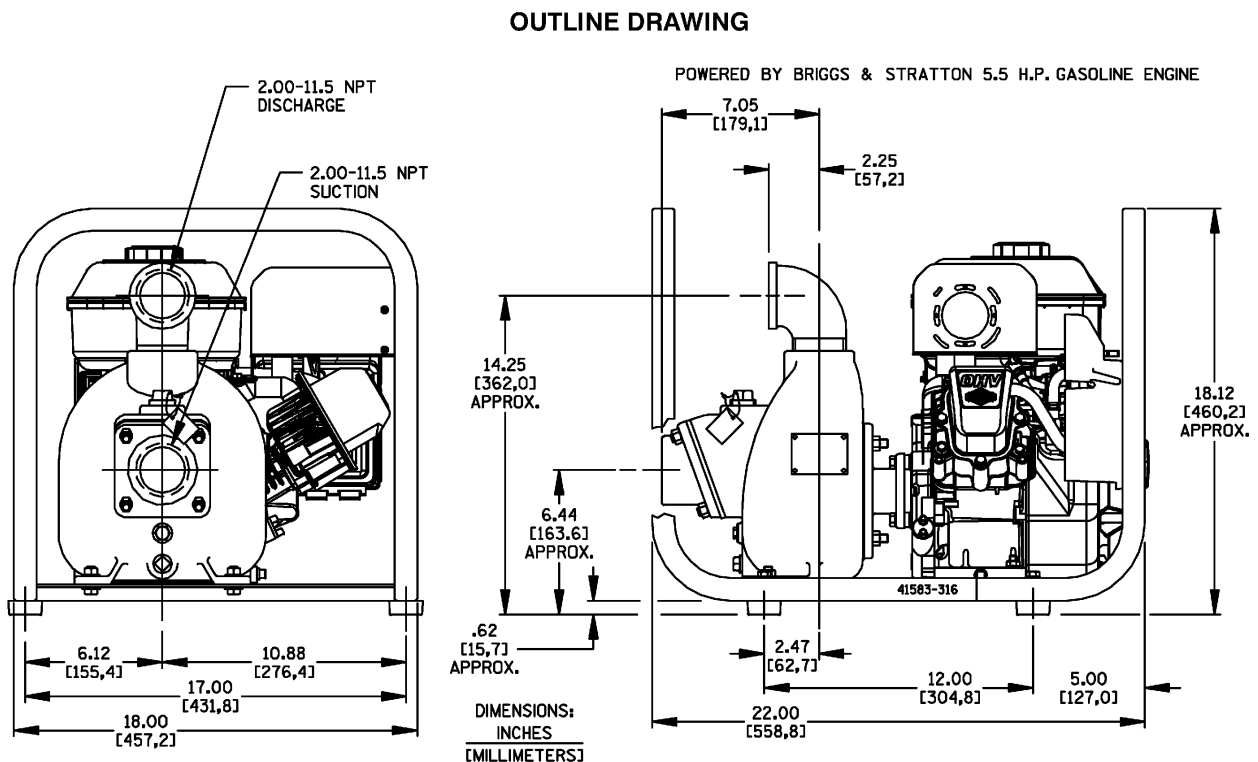

Figure 1. Pump Models 82D-11
See Figure 1 for the approximate physical dimensions of this pump.
- e. The rubber foot mounting kit (see the Parts List, Section E, Page E-3) was shipped loose with the pump. Refer to Figure 1, Page E-2 and install the parts as shown.